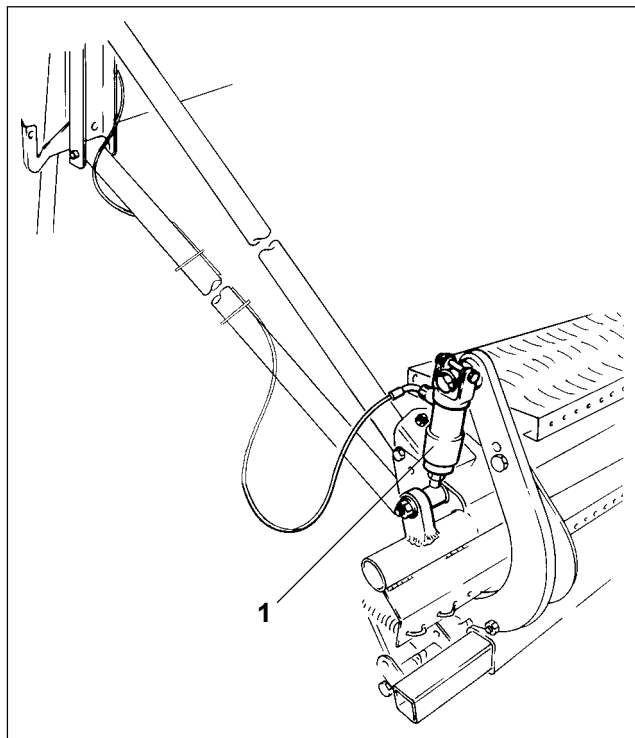
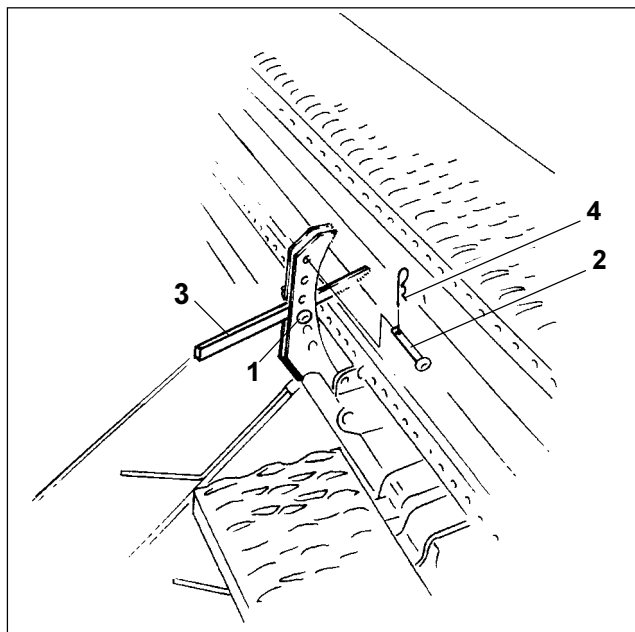

Fig. 14.7
Fig. 14.8
When changing from normal to heavy soil or vice versa, the coulter pressure is readjusted by a hydraulic ram (Fig. 14.7/1).
Two pins (Fig. 14.8/1 and Fig. 14.8/2) are placed as a stop for the lever (Fig. 14.8/3) in the setting segment. The lever (Fig. 14.8/3) which is actuated by the hydraulic ram (Fig. 14.7/1) rest on the pin I (Fig. 14.8/1) when the hydraulic ram is without pressure and it stops on pin II (Fig. 14.8/2) when the hydraulic ram has been pressurised.
- Pressurise hydraulic ram (Fig. 14.7/1).
- Insert pin I (Fig. 14.8/1) into a hole in the setting segment below the lever (Fig. 14.8/3) and secure by using a clip pin (Fig. 14.8/4).
- Relieve the hydraulic ram (Fig. 14.7/1) from pressure.
- Insert pin II (Fig. 14.8/2) into a hole **above** the lever (Fig. 14.8/3) in the setting segment and secure by using a clip pin (Fig. 14.8/4).